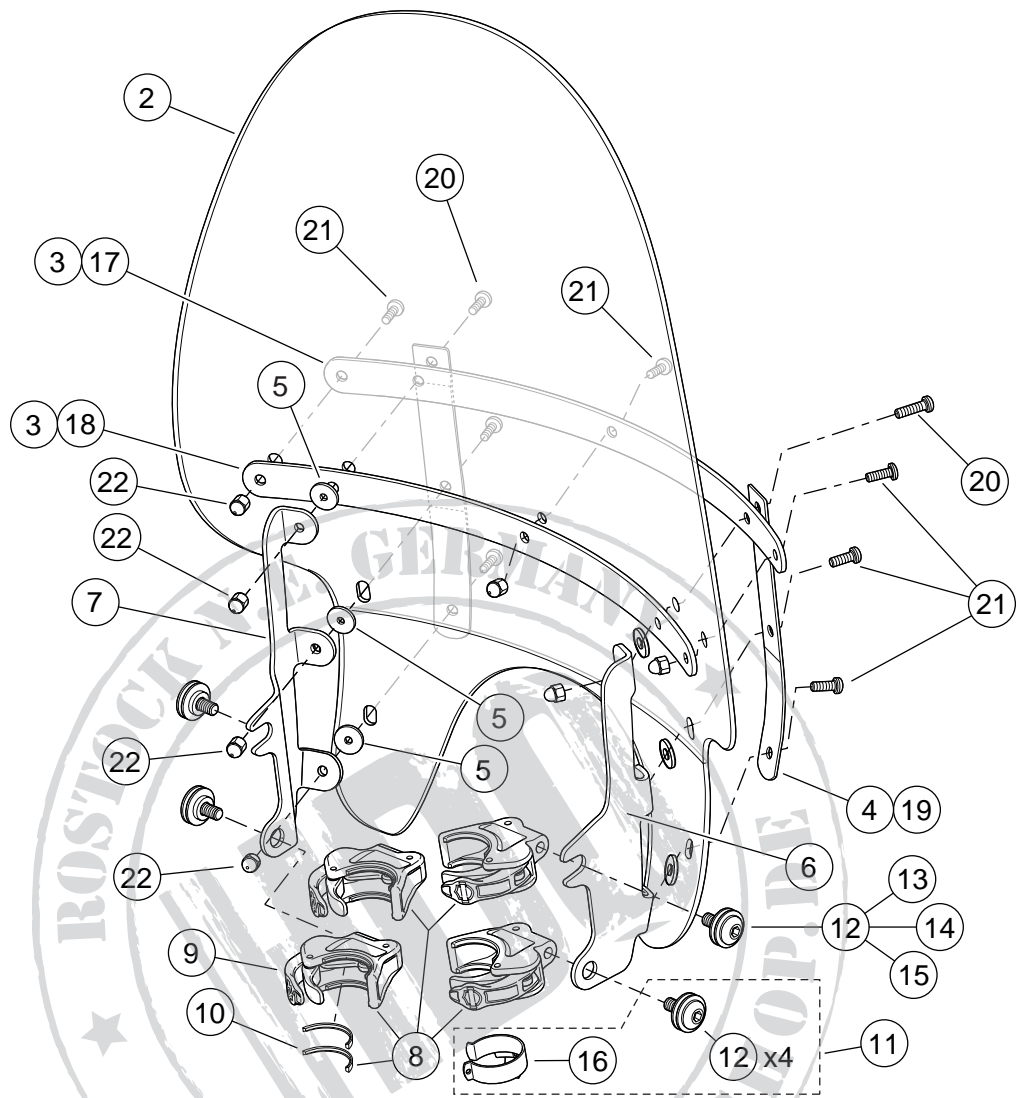

Figure 2. Service Parts, XL1200X Quick Release Windshield
See Figure 2 and Table 2.
2. See Figure 2. Remove the clamp assemblies (9) and hardware kit (11) from the packaging, and separate similar parts in preparation for assembly.
3. See Figure 2. Snap the throttle cable clip (16) around the right-side fork tube, and route the throttle cables through the guide opening. Slide the clip down to the lower fork bracket (triple clamp).